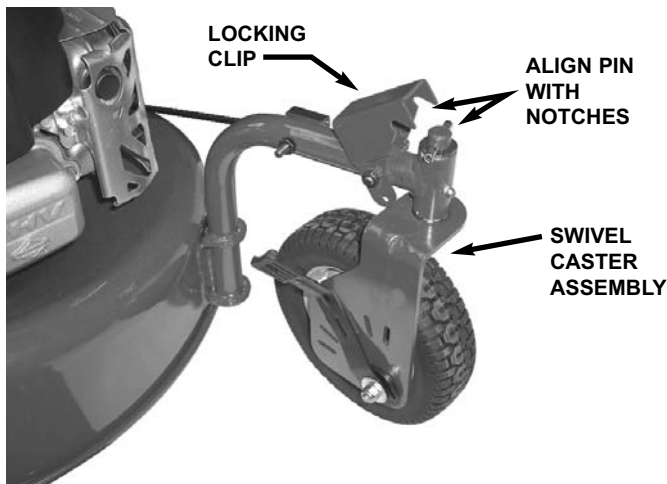

FIGURE 2.7
1. Move mower straight forward to align caster stud pin with notches in swivel locking clip, located above left caster stud. See Figure 2.7.